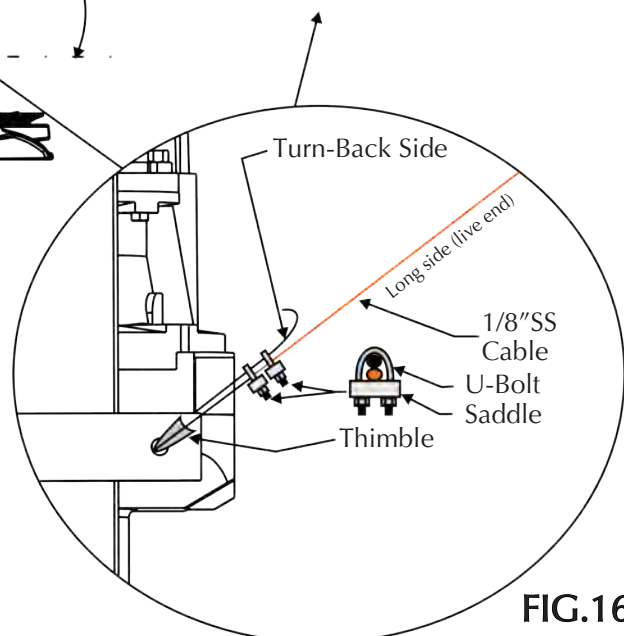

FIG.16
4. Secure it with 1 thimble and 2 cable clamps (Fig.16). Repeat using the other 3 pieces of guy wire cables, thimbles and cable clamps (Fig.16).